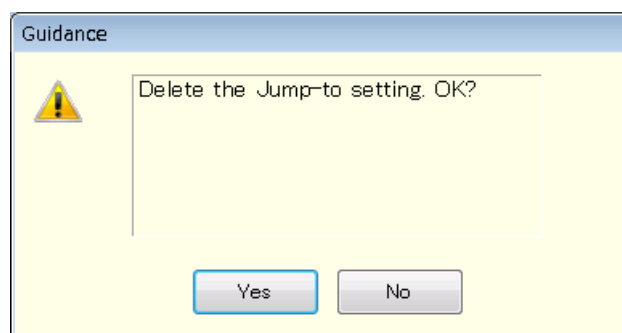

Figure 6-8 Confirmation Dialog for Deleting a Step
- When a step that is set as the destination of any jump-to step or branch step is deleted, the dialog as shown in Figure 6-8 appears. When you select **Yes**, the step is deleted and then the step number of the jump-to or branch step is automatically updated to the step number 0. If you select **No**, deletion of the step is canceled.